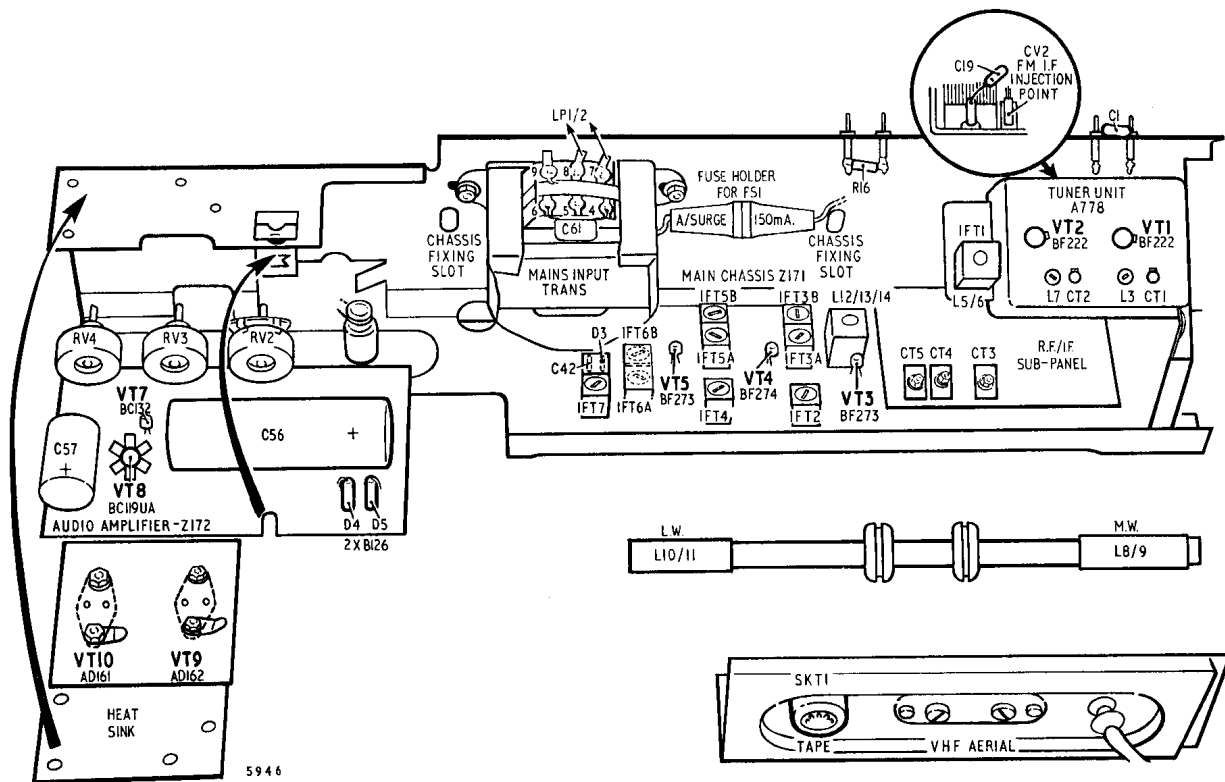
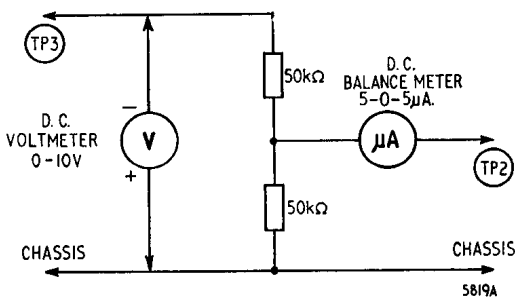

Fig. 1 Rear view of chassis.
Fig. 2 Meter connections for F.M. alignment.
(f) A matched pair of 50 k Ω resistors (see Fig. 2).
Notes: (a) Connect the d.c. voltmeter, the balance meter and the two 50k ohms resistors into the circuit as shown in Fig. 2.
- 1 Switch the receiver to VHF and inject 10.7 MHz unmodulated signal to CV2 (see Fig. 1). The d.c. voltmeter and the balance meter should be connected as shown in Fig. 2.